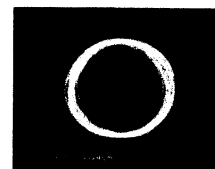

Fig. 2
5. Set the oscilloscope to X-Y operation, and while observing the lissajous waveform adjust P301 to the point where the phase difference is 90° as shown in Fig. 2 below.
5. Set the oscilloscope to X-Y operation, and while observing the lissajous waveform adjust P104 to the point where the phase difference is 90° as shown in Fig. 2 above.